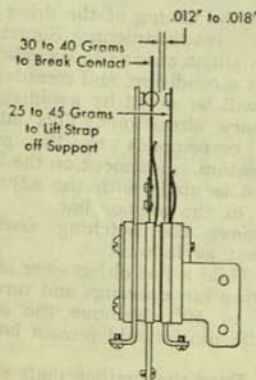

Figure 4. Error Contact Adjustment
1. Form the operating point support spring to require 30 to 40 grams to break the N/C contacts. Measure at the arrow shown in Figure 4.